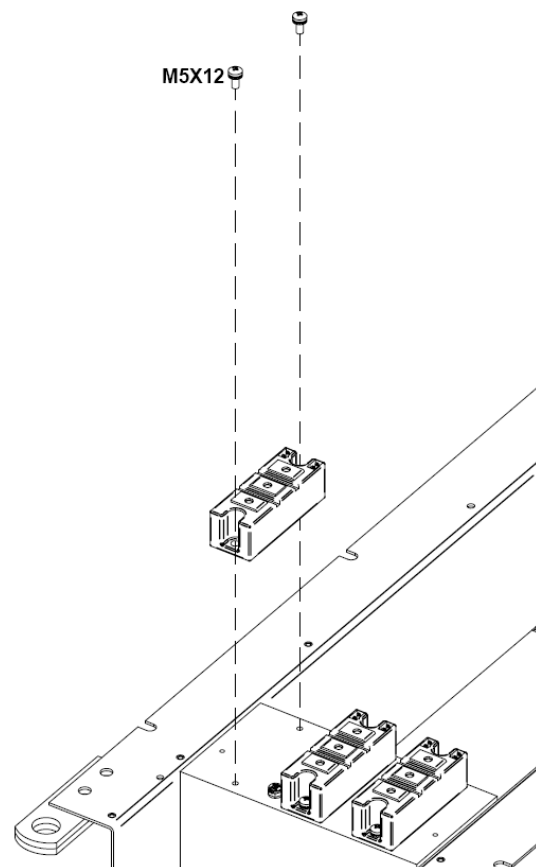

Figure 3.21. Removing SCR
Follow *figure 3.21* while reading these instructions:
- 2) Insert the SCR in the heat exchanger (see *figure 3.21*).